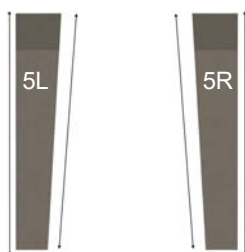

Figure 12. Upper Sidewalls -Top View
F. Install upper sidewalls (5L) and (5R), ensuring the correct piece is placed in position. The correct position is when the inner wall, outer wall and front are parallel with the middle wall pieces. Place each so the front is set back 3½ inches from the front of the middle wall piece below. See Figures 12 & 13.